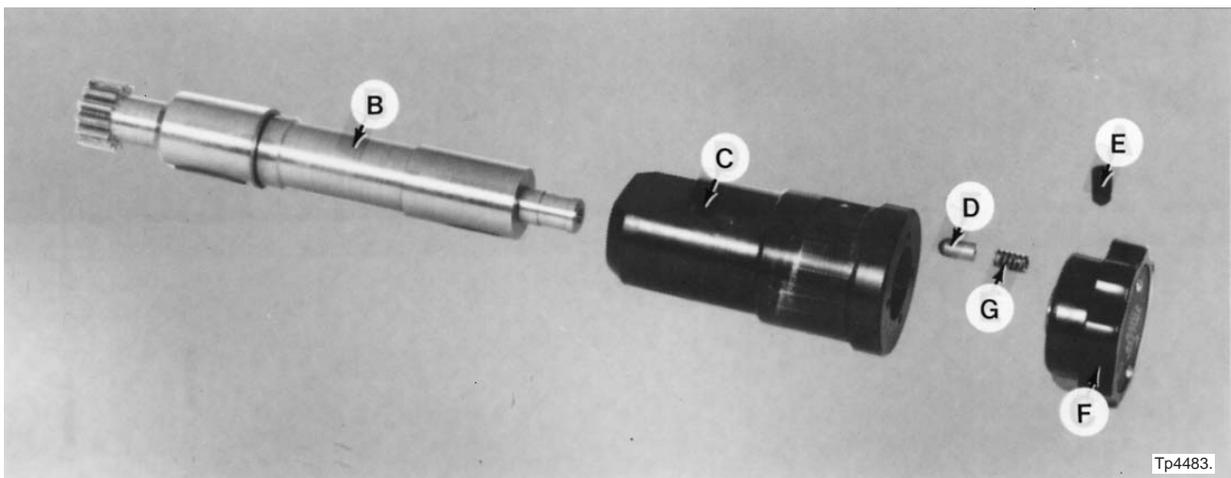

Figure 4.27 - Pinion Assembly Components
- a) Remove set screw "E", Figure 4.27 .
- a) Replace spring "G", Figure 4.27, and plunger "D" in handle "F".